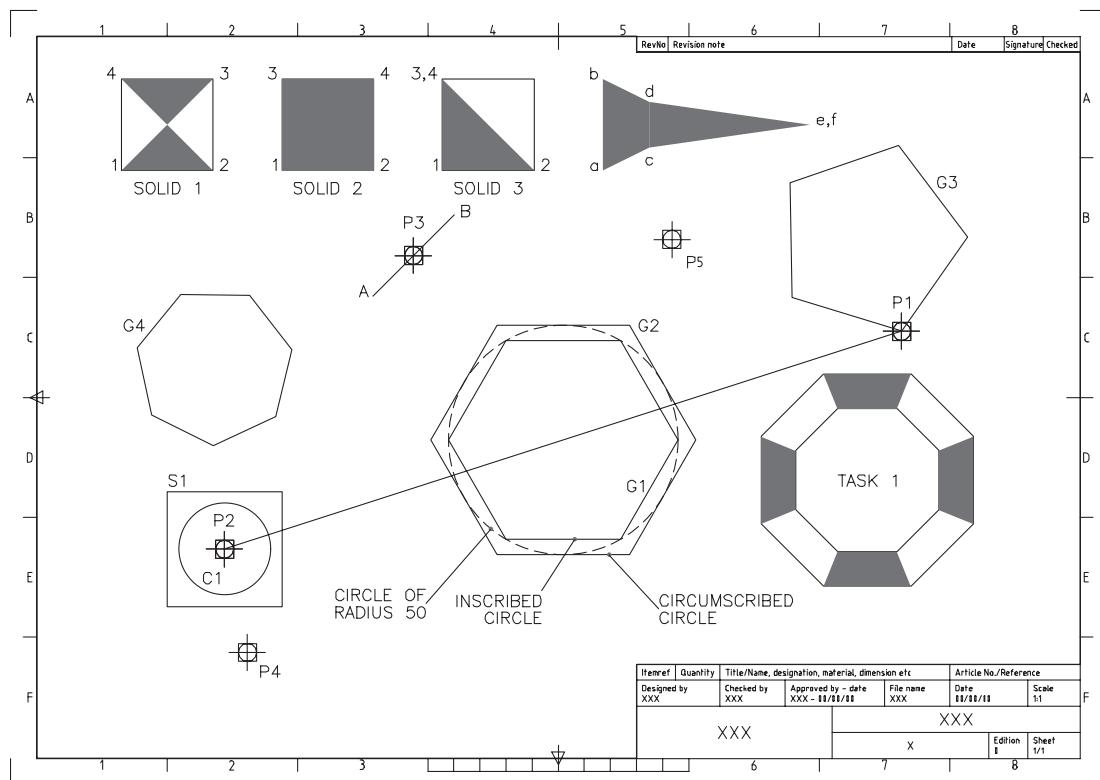

Figure 9.2 Point, polygon and 2D solid creation.
b) Refer to Figure 9.2 and erase all objects except square S1, circle C1 and line AB.
- 2 Refer to Figure 9.2 and select the **POLYGON icon** from the Draw toolbar and:
- 4 The screen will display an inscribed and circumscribed circle drawn relative to a 50-radius circle as shown in Figure 9.2. These hexagonal polygons can be considered as equivalent to:
- 2 With the snap on, draw three squares of side 40, towards the top part of the screen as Figure 9.2.
- b) Use the SOLID command to produce the effect in Figure 9.2.